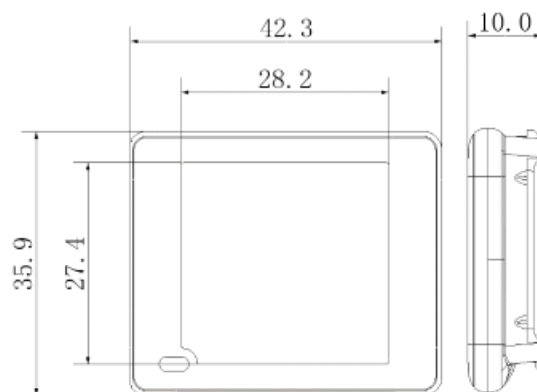

Figure 2-3 1.6" dimensions
- **Dimensions:** Various sizes as per Figures 2-3 to 2-12